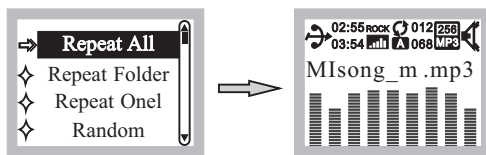

Fig. 12
(F) Repeat Mode: Press PRV/TEN or NEXT/TEN to select parameter, Fig. 12.
- (1) Repeat All: A .
- (2) Repeat Folder: D .
- (3) Repeat One: 1 .
- (4) Random: R .